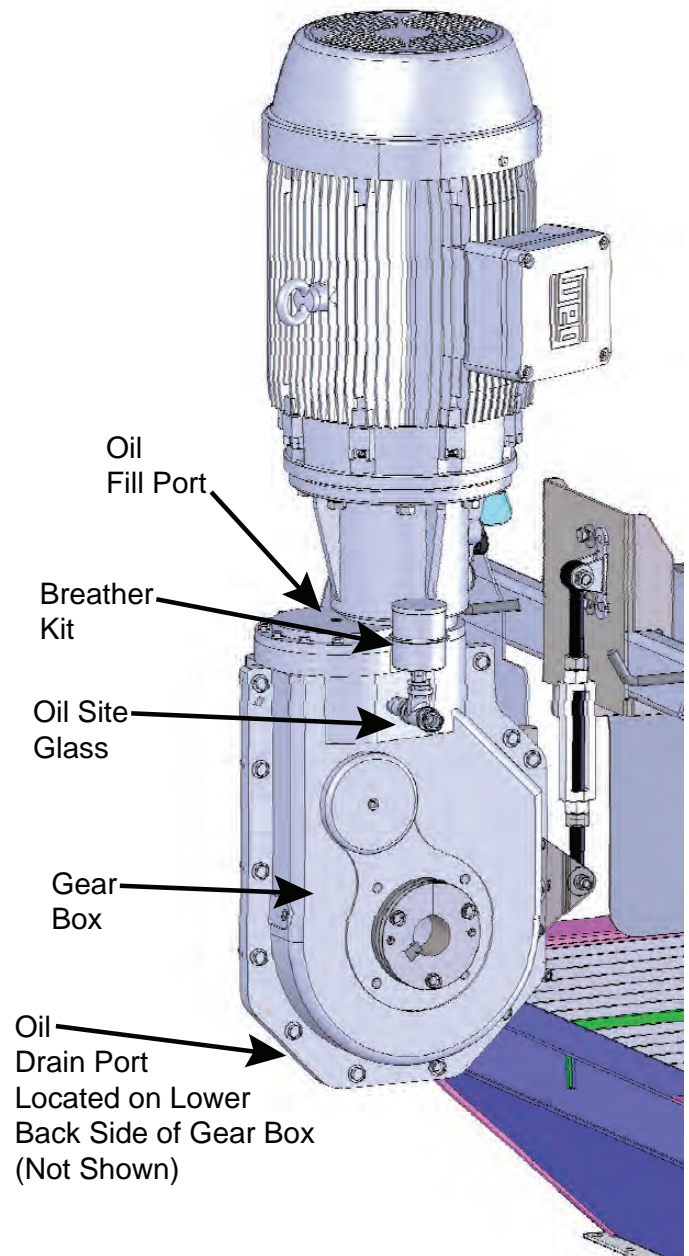

Figure 4-38 Gearbox Components
See Figures 4-38.
2. Fill the Gearbox with the supplied SHC630 synthetic oil until it shows in the site glass See Figures 4-38.
3. Re-Install the Gearbox Fill Port Plug and tighten in place. See Figure 4-38.